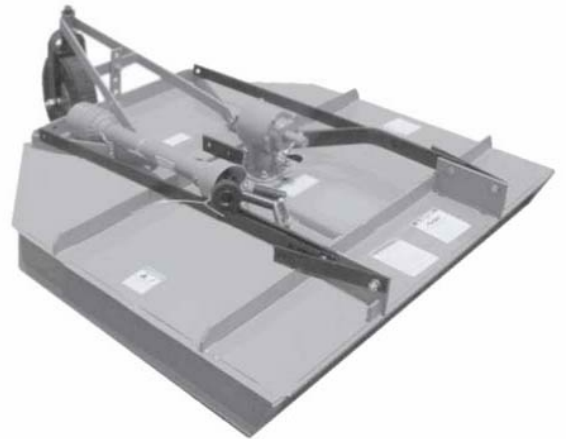

Figure 1
STEP 1 Place Rough Cut Mower on a flat, level surface. (See Figure 1)